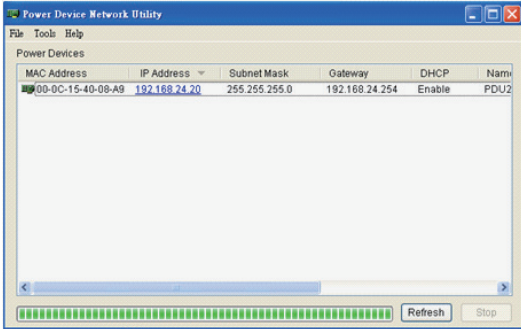

Figure 4. Equipment List
Step 1. Select the appropriate ATS device from the Equipment List (Shown in Figure 4.).